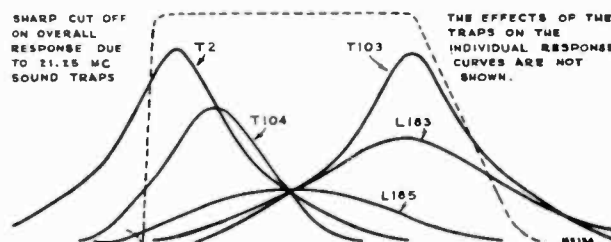

Figure 12—Stagger Tuned I-F Response
**PICTURE I-F AMPLIFIER AND DETECTOR** (block #3)—The picture i-f amplifier departs considerably from the conventional coupled system. To obtain the necessary wide band characteristic with adequate gain, four stages of i-f amplification are employed. The converter plate and each successive i-f transformer utilize one tuned circuit each and each is tuned to a different frequency. The effective Q of each coil is fixed by the shunt plate load or grid resistor so that the response product of the total number of stages produces the desired overall response curve. Figure 12 shows the relative gains and selectivities of each coil and the shape of the curve of the quintuple combination.